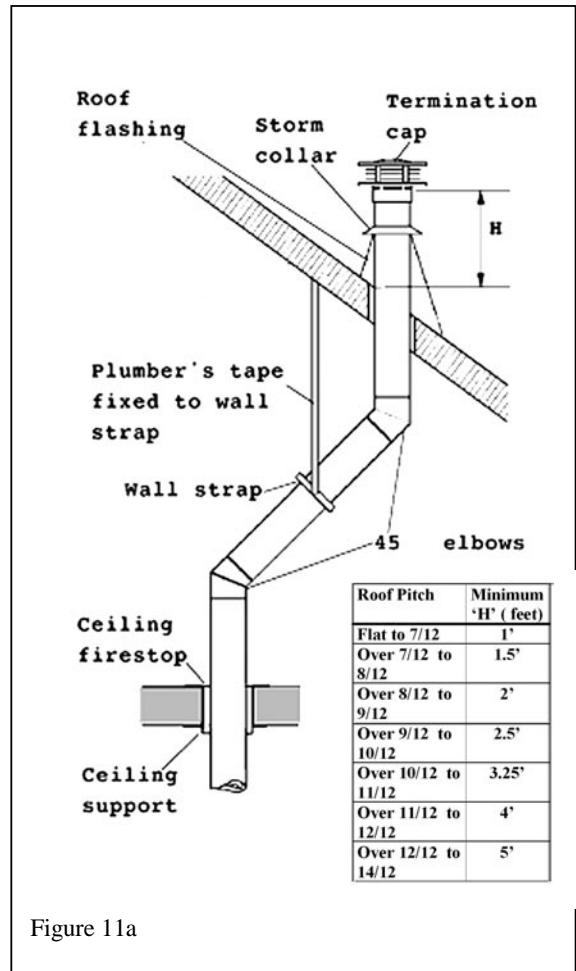

Figure 11a
2. The venting system for these appliances is considered to be a *Special Venting System*. The rule in the Installation Code CAN/CGA-B149 requiring a minimum vent height of 2ft above any portion of a building within 10ft does not, therefore, apply. (See figure 11a)